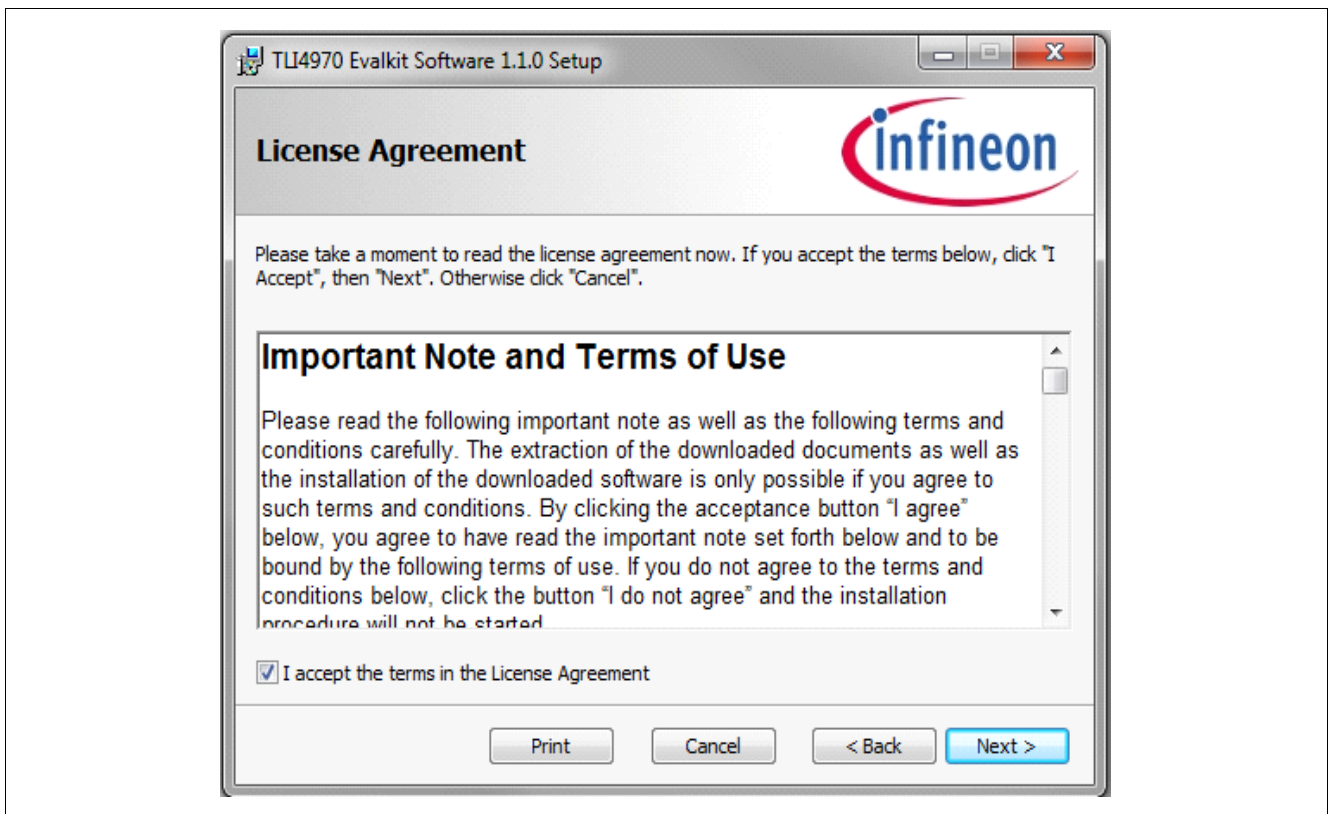

Figure 3 EvalKit Installer - License Agreement
2. Read through the license agreement carefully and continue the installation by accepting. If the license agreement is not accepted, the installation will be aborted, see Figure 3.